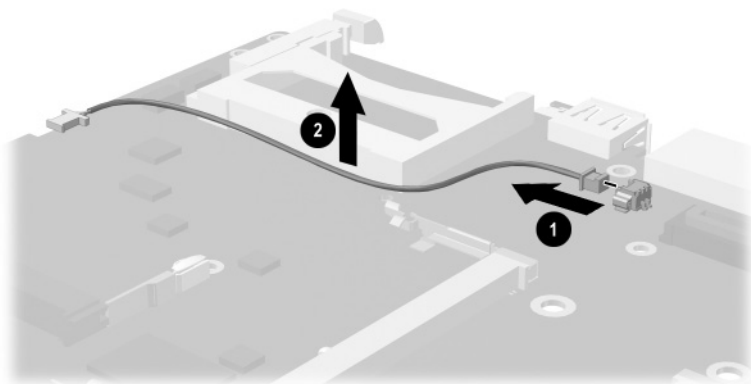

Figure 5-28. Removing the Modem Cable
5. Disconnect the modem cable ❶ from the system board (Figure 5-28).
6. Remove the modem cable ❷.